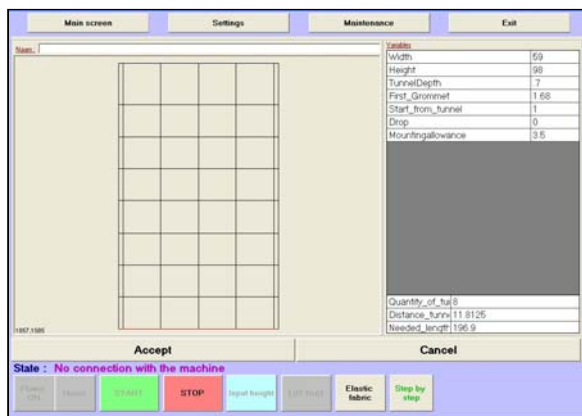

Figure 26 Screen with curtain data
- ▶ The touchscreen will show the main data of this basic shape, see example in Figure 26.